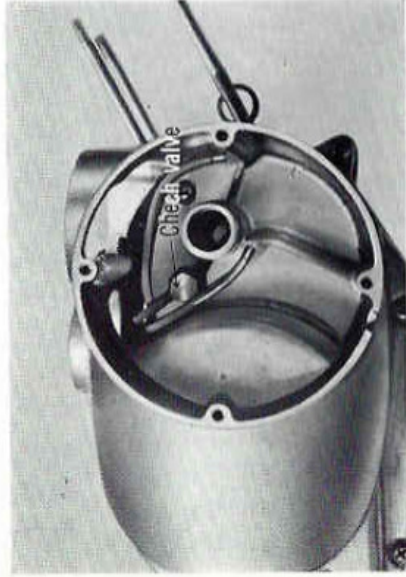

Fig. 8-2-11
- Remove a **check valve** inside the crankcase right cover with a 14 mm wrench and the oil line can be pulled out of the crankcase. (Fig. 8-2-11)